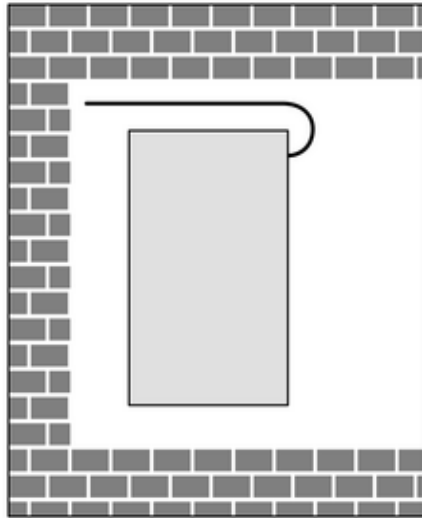

Figure 4: Installation in appliance box
- i** Lay the antenna stretched out freely if possible (figure 4).